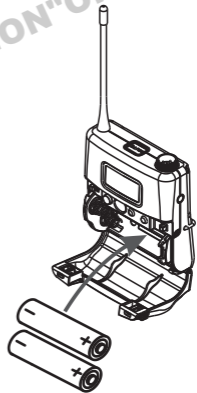

Fig. 25
2. Insert two AA sized batteries according to correct polarity, Fig. 25.